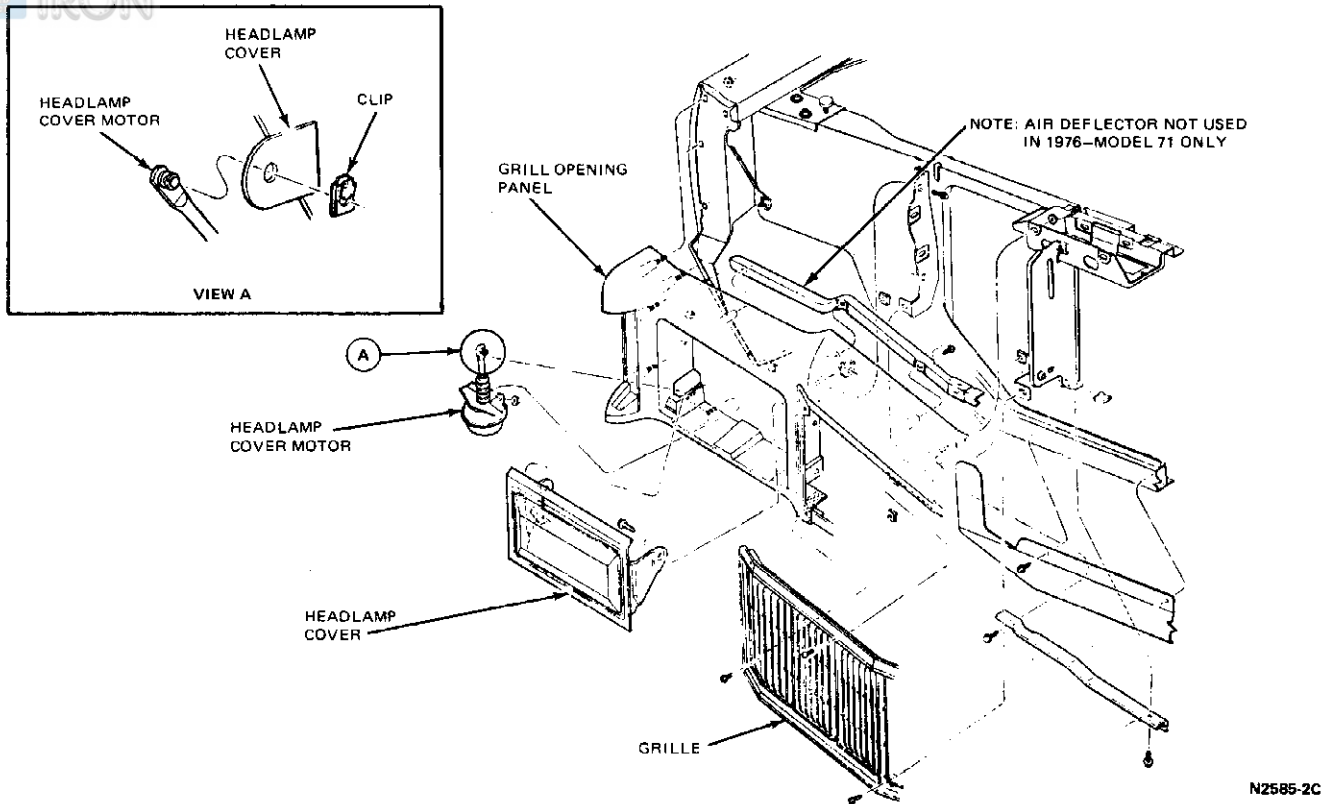

FIG. 3 Radiator Grille Installation—Mercury High Series
1. Remove seven radiator center grille attaching screws (Fig. 3), and remove the center grille from the vehicle.